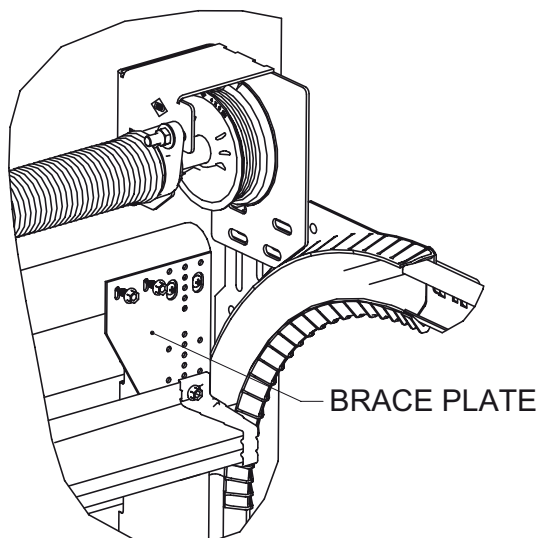

Fig. 5.5.2
For single end stiles - on each side of the top panel as shown in Figure 5.5.2. Locate the plate over the (2) two stile screws and secure each sides brace plate with (2) two tek screws.